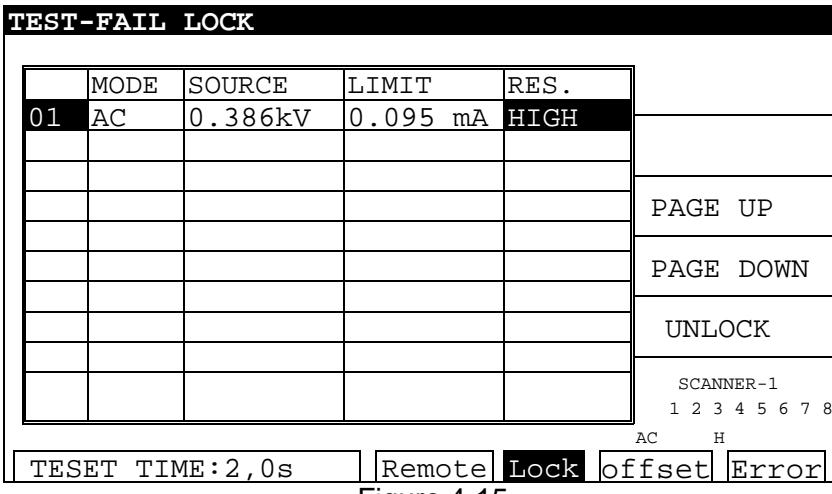

Figure 4-15
4. When FAIL LOCK function activated, if DUT judged as FAIL then *Figure 4-15* will be shown.